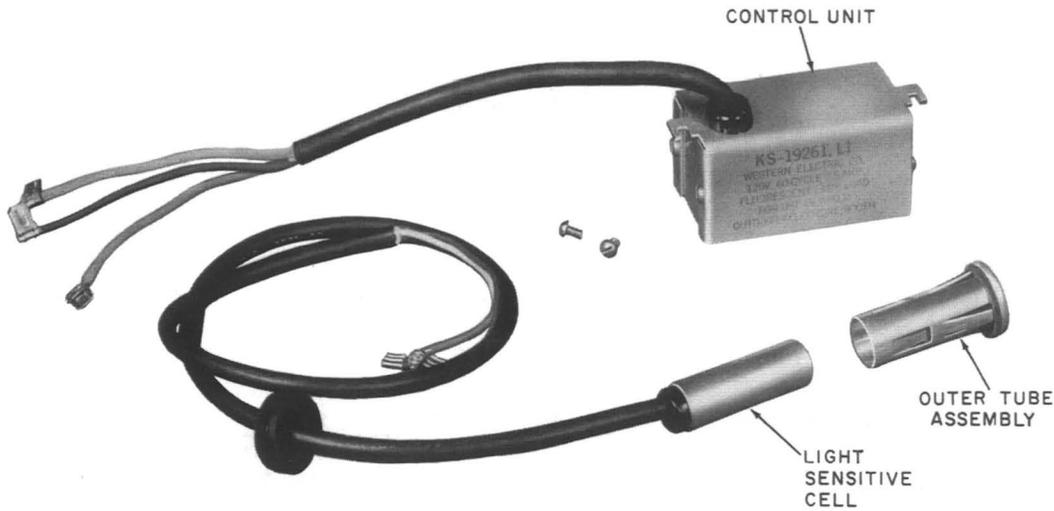

Fig. 1—KS-19261, List 1 Light Control Unit
2.01 The List 1 unit (Fig. 1) is designed for the following outdoor booths:
- KS-14611 Airlight booth (MD) equipped with a KS-19207 light fixture
- KS-16797 Universal booth (MD) equipped with a KS-19207 light fixture